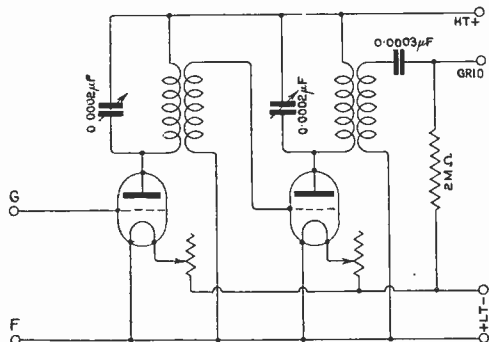

Fig. 1. A 2-valve H.F. amplifier. The valves are transformer coupled.
(1) The circuit proposed is quite suitable, and the connections are correct. For short wave work we suggest you build cylindrical coils, one for the aerial circuit 4" in diameter and 4" long, of No. 20 D.C.C., with eight tappings, and one for the anode circuit 4" in diameter and 6" long, of No. 30 D.C.C., with 12 tappings. For the H.T. bypass condenser we suggest you use 21 foils, each foil having an overlap of 4" by 3". The mica should be 0.002" thick, and only good mica should be used. Waxed paper is not very suitable unless you are prepared to make up two or three condensers and connect them in series. (2) We believe that this type of valve gives satisfactory results in H.F. circuits. We would refer you to the diagram Fig. 2, page 614, February 3rd issue, and Fig. 1, page 613, February 3rd issue.
(1) and (2) The diagram is given in Fig. 1, and suitable values are indicated.
(1) The anode coil may be a winding 4" in diameter and 6" long, of No. 32 D.C.C., with 12 tapings. (2) The condenser which is to be used to provide capacity reaction may have a maximum value of 0.0005 mfd. It would probably consist of one moving and two fixed plates. (3) The method of connecting potentiometers is given in several recent issues. In particular we would refer you to the connection given in Fig. 1, page 601, February 3rd issue. When it is required to apply voltages of the order of 30 volts to the grid, a potentiometer is not essential. It is better to take tapings from the cells. (4) The primary winding of the transformer may consist of 350 turns of No. 22, and the secondary should consist of 21 turns of No. 16 D.C.C. The core of the transformer should have a cross section of three square inches. A resistance on the primary side as suggested would control the output. As it may be required to use more than six volts on the secondary side, we suggest you wind an extra 10 turns, making a total of 31 turns, with a tapping at the 21st.